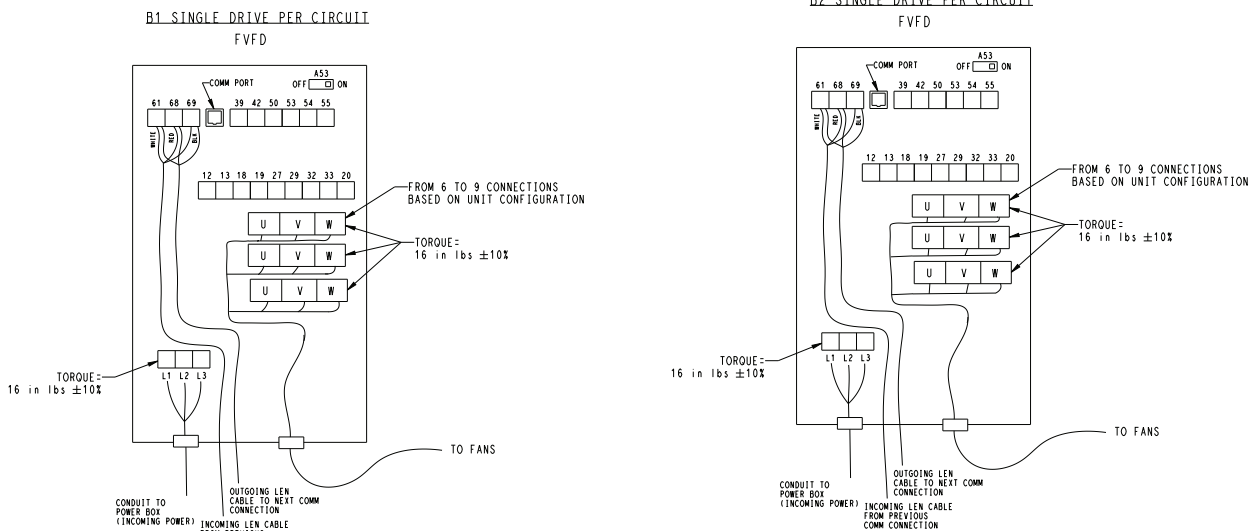
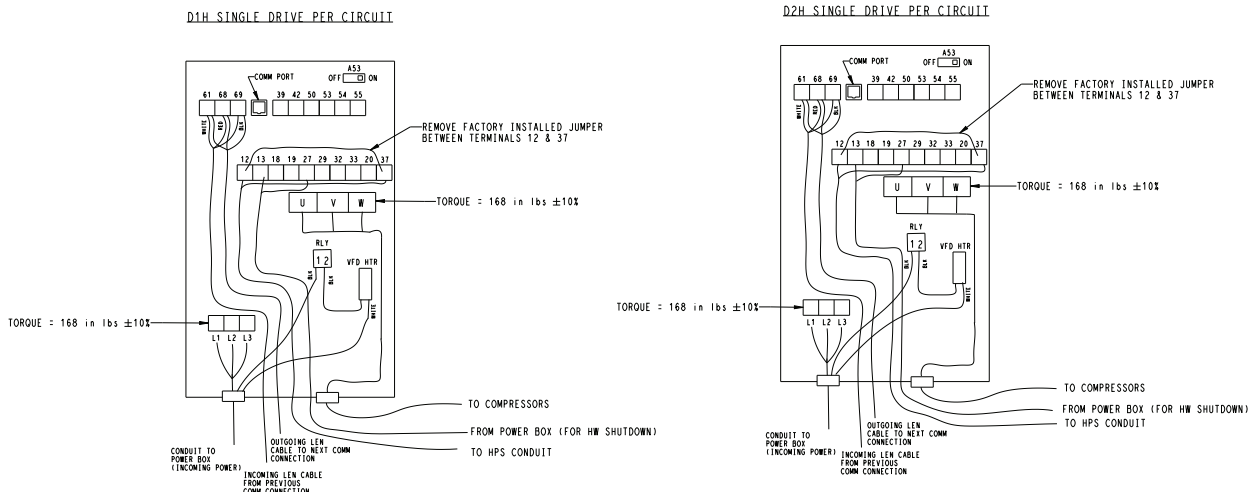

Fig. 74 — Fan Drive Wiring
Fig. 75 — Compressor Drive Wiring
5. Connect power, control, VFD enable, and high pressure switch wiring to drive. For wiring details for fan drives, see Fig 74. Use the same knockout openings on new drive as on drive being replaced. For compressor drives, the high-pressure switch, VFD enable, and heater wiring also need to be connected. See Fig. 75 for wiring details for compressor drives. For compressor drives, remove the blank gland plate from the new drive and install the pre-punched gland plate from the drive being replaced. Torque connections are shown in Table 88.
- a. Using the display interface on the VFD drive, press the Main Menu button twice. Navigate to menu item 8-30 and confirm that the LEN option is selected: Using the UP/DOWN arrows and OK button, follow the path: 8-** (Command Options) → 8-3* (FC Port Settings) → 8-30 (Protocol). If LEN is not selected, press the OK button and use the arrow keys to scroll through the options and select it. If no LEN option appears, LEN communication is not enabled on the drive. Follow the process described in the next section, Enable LEN Communication, and then complete the following addressing procedure.
- b. Navigate to menu item 8-31 on the VFD display and enter the address for the drive being configured: Follow the path: 8-** (Command Options) → 8-3* (FC Port Settings) → 8-31 (Address). Press the OK button and use the UP/DOWN arrow keys to select the drive address. See Table 89 to determine the correct address. For fan drives, see Fig. 74 for typical arrangement. For compressor drives, see Fig. 75 for typical location.